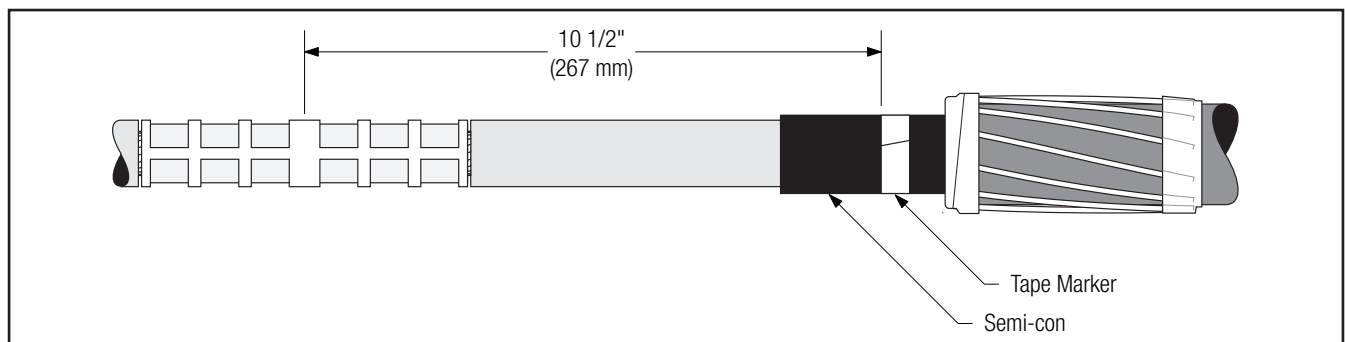

Figure 12
- 4.1 Apply a tape marker to semi-con insulation shield on cable which does not contain splice. Measure 10 1/2" (267 mm) from center of connector (*Figure 12*).